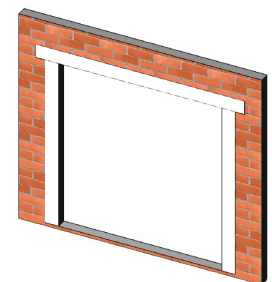

Figure 18:
3. Finally, at the head, embed the flashing into the sealant on the mounting flange and fasten into place. The flashing paper should be cut sufficiently long enough to extend past the flashing paper at each jamb by at least 3 in (Figure 18).